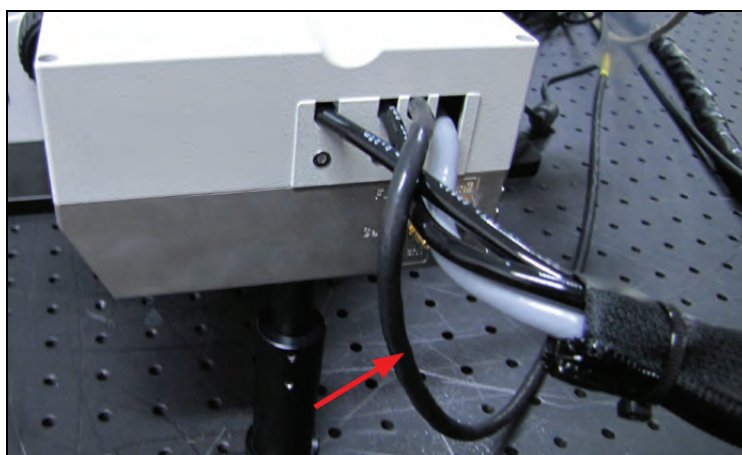

Figure 193: Image signal cable on the HyD RLD, which is attached to the scan head's APD printed circuit board
3. Connect the HyD RLD image signal cable (**Figure 193**) to the scan head's APD printed circuit board (**Figure 190**).